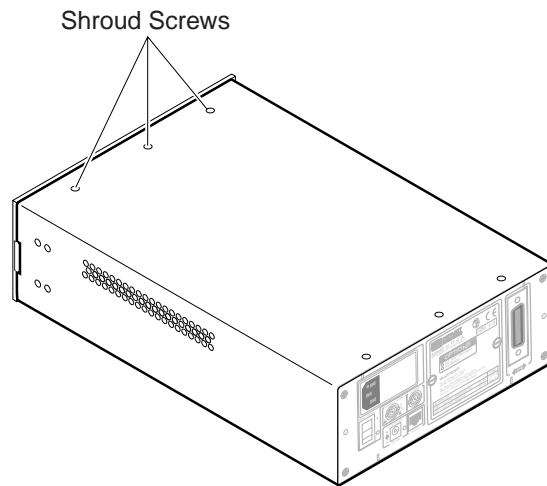

Figure 3-7. Top Front shroud Screws
- 4 Use a #1 Phillips screwdriver to remove the three 4-40 x 3/16-inch countersunk shroud screws from the top of the Counter near the front edge of the shroud (see Figure 3-7).